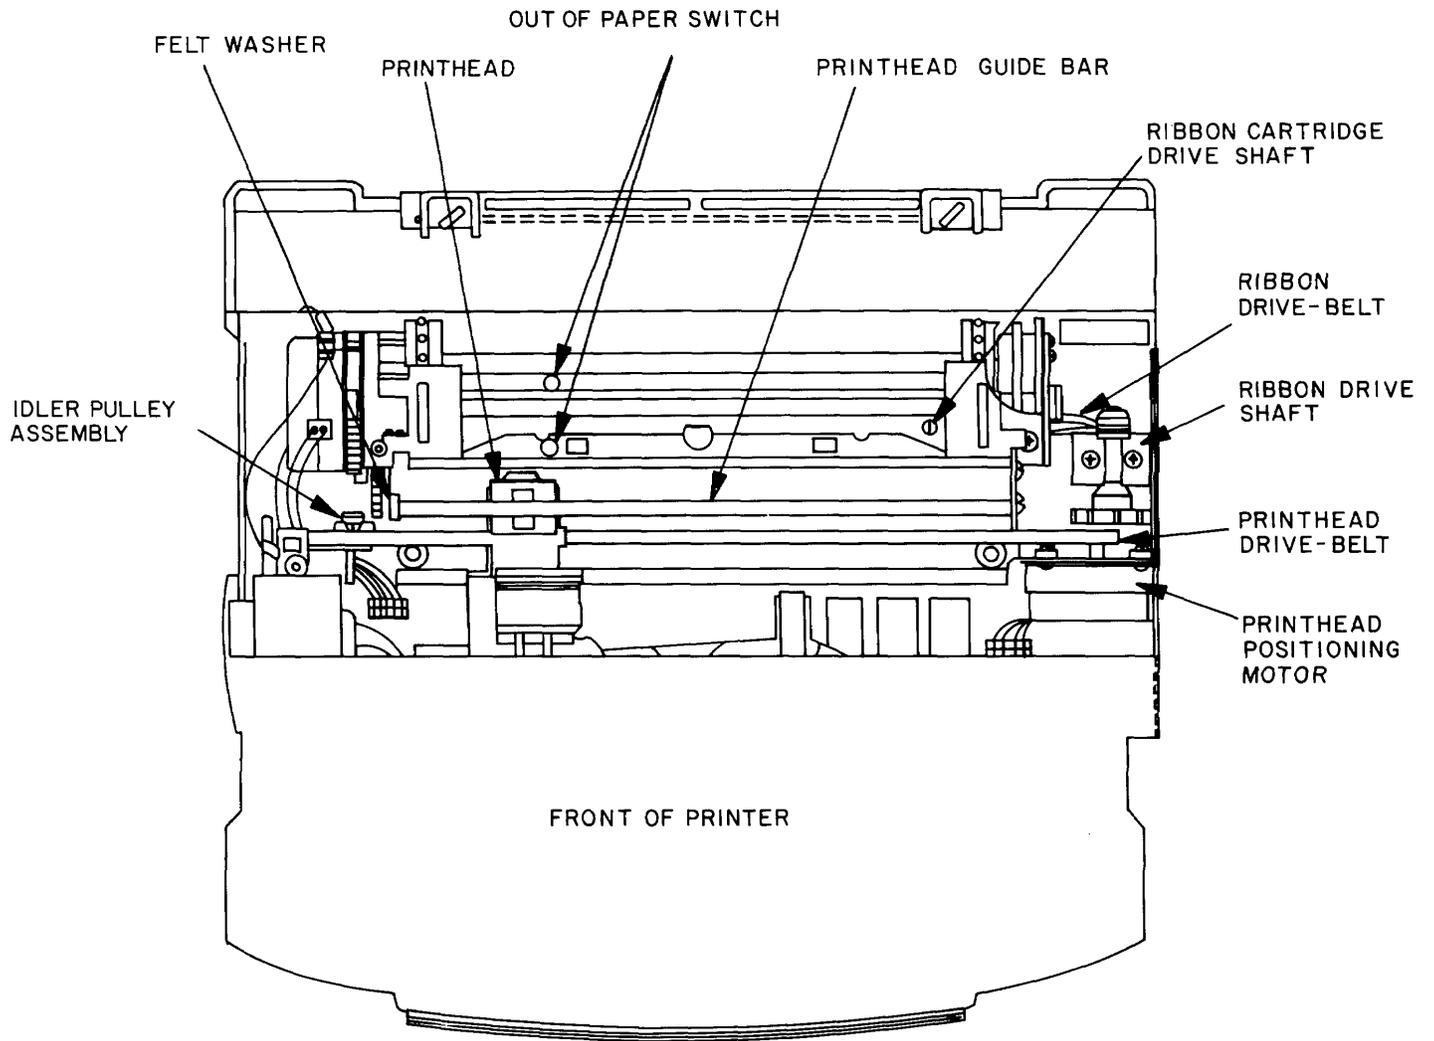

Figure 4-1. Printer Part Location
- (4) Remove ribbon cartridge. Refer to paragraph 3-4 a.
- (5) Using a vacuum cleaner with a nonmetallic nozzle, carefully vacuum all accessible areas of printer interior.
- (6) Remove all oil and dirt from printhead guide bars and catch tray below them.
- (7) Place a maximum of 1 drop of SAE 10wt oil on felt pad at left side of bottom printhead guide bar. See figure 4-1.
- (8) Spread 1 drop of SAE 10wt oil across each guide bar See figure 4-1.
- (9) Place a drop of SAE 10wt oil on top of shaft that drives ribbon cartridge See figure 4-1.
- (10) Place a drop of SAE 10wt oil on both ends of ribbon drive shaft See figure 4-1.
- (1) Place power switch in OFF position.
- (2) Remove translucent window from top of printer.
- (3) Remove ribbon cartridge. Refer to paragraph 3-4 a.
- (4) Loosen two screws that secure out-of-paper switch. See figure 4-1.
- (5) Slide out-of-paper switch to back position by sliding adjustment screws toward rear of printer.
- (6) Engage friction paper feed Refer to paragraph 2-5 c (7).
- (7) Place power switch in ON position.
- (8) Slide paper into front paper feed slot.
- (9) Push paper into contact with pressure rollers.
- (10) Holding paper in contact with pressure rollers, adjust out-of-paper switch until READY Indicator comes on.
- (11) Secure switch assembly in this position by tightening two No. 4 screws.
- (12) Remove paper and observe that READY indicator goes off. If the indicator does not go off, repeat steps (8) through (12).
- (13) Reinsert paper in paper feed slot.
- (14) Verify that READY indicator comes on at proper time.